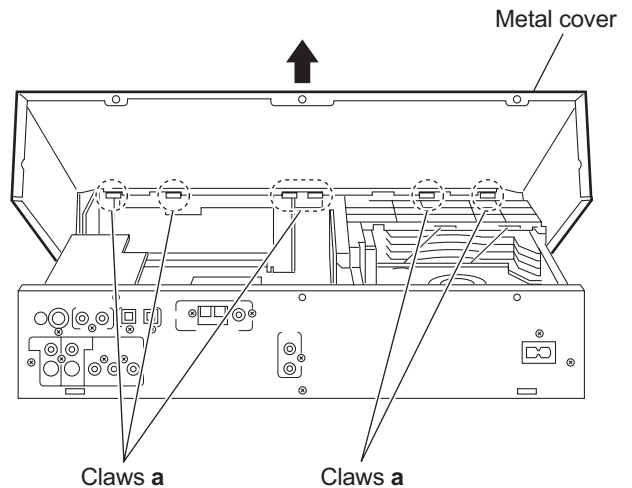

Fig.4
- (3) Lift the rear section of the metal cover in the direction of the arrow while extending the lower sections of the metal cover, release the claws **a** using a longer screwdriver from the inside as required. (See Fig.4.)